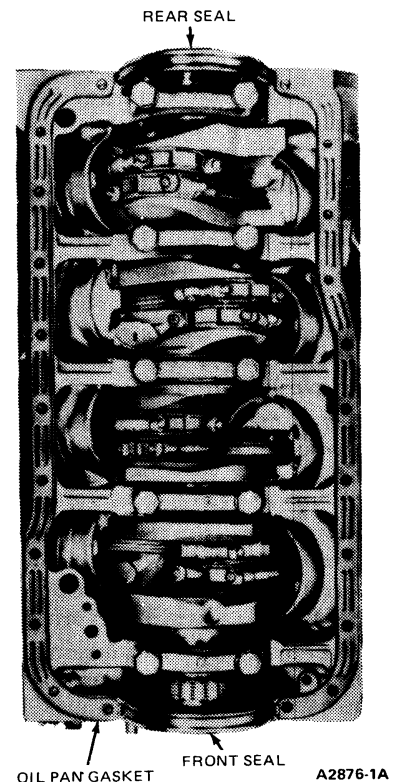

FIG. 36 Oil Pan Gaskets and Seals Installed
2. Position a new oil pan gasket and seals to the cylinder block (Fig. 36).
8. Install the lower seal in the rear main bearing cap with the undercut side of the seal toward the FRONT of the engine (Fig. 36). Allow the seal to protrude approximately 3/8 inch above the parting surface to mate with the upper seal when the cap is installed.